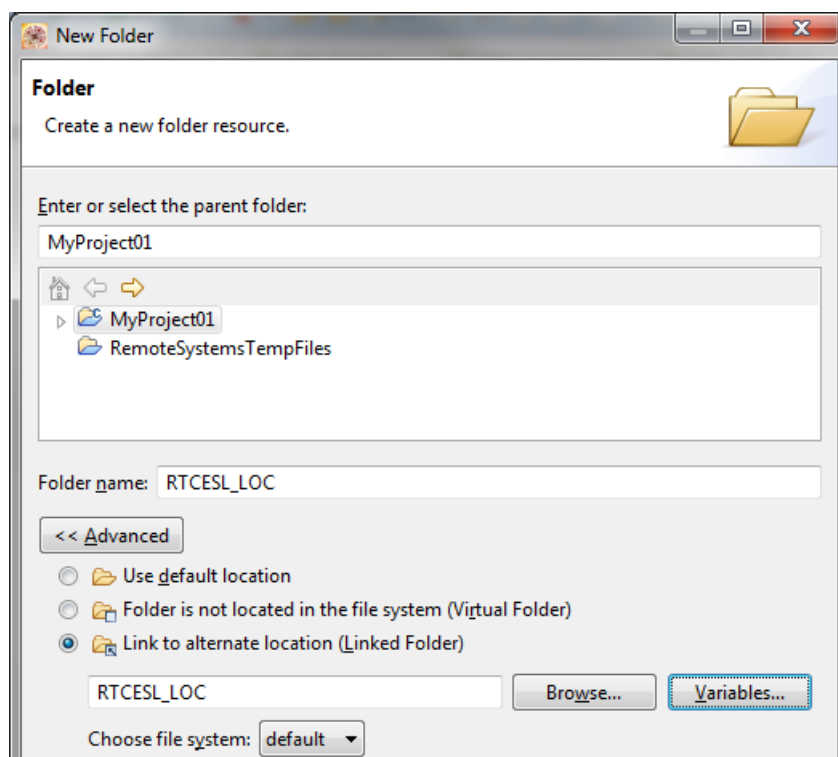

Figure 1-9. Folder link
4. Click Variables..., select the RTCESL_LOC variable in the dialog, click OK, and/or type the variable name into the box. See Figure 1-9.